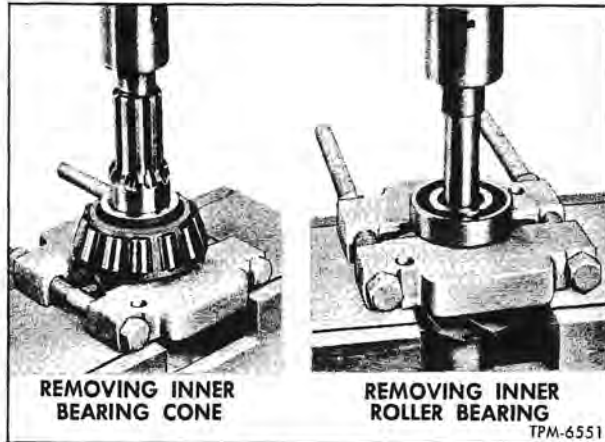
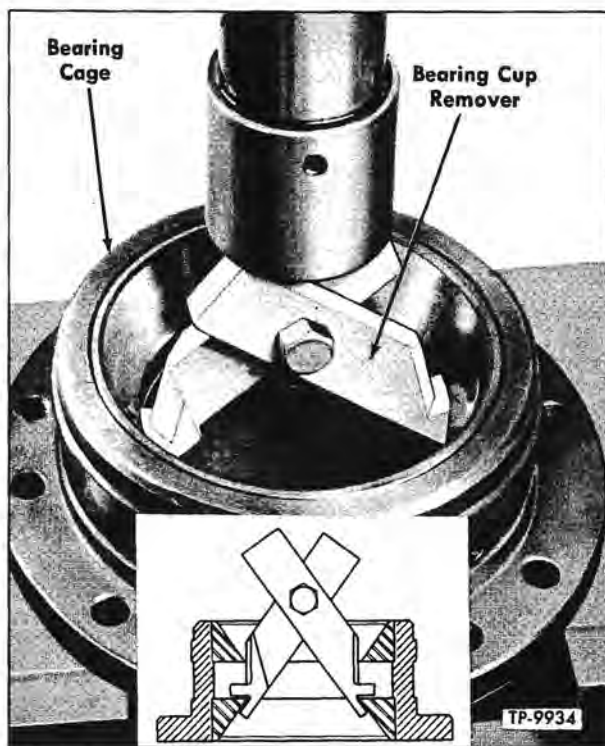

Figure 10—Pinion Bearing Removal
Figure 11—Pinion Cage Bearing Cup Removal
3. Install two puller screws (1/2"-13 x 2-1/2") and tighten alternately and evenly to pull cage (30) out of carrier. Remove shim pack (17) from pinion cage studs (21). Tie shims (17) together so same shim pack may be used at reassembly.
4. Remove retainer ring (38) which secures inner bearing (37) on drive pinion (36); then remove inner bearing from drive pinion using universal puller (J-8176) and arbor press in manner illustrated in figure 10.
5. Clamp pinion in vise equipped with soft jaw plates. Remove cotter pin, nut (25), and washer (26) from drive pinion (36).
6. Place cage and drive pinion assembly in an arbor press and press drive pinion (36) out of flange (27) and pinion cage. Outer bearing (31) will remain in pinion cage (30).
7. Remove cap screws and lock washers attaching oil seal retainer (23) to pinion cage, then remove slinger.
8. Remove bearing adjusting spacer (33) from drive pinion (36) and tag for reassembly reference.
9. If necessary, inner bearing cone (35) can be removed from pinion with universal puller (J-8176) and arbor press as illustrated in figure 10.
10. Remove oil seal (29) assembly from pinion cage.
11. When inspection indicates necessity, cups (32 and 34) can be removed from cage, using remover (J-3940) in manner illustrated in figure 11.